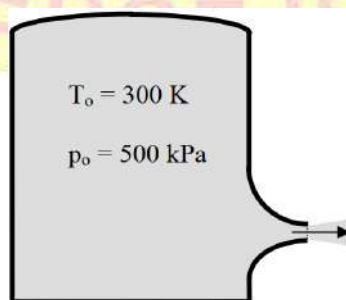

Figure 2
17. Compressed air is discharged through the converging nozzle as shown in figure 2. The tank pressure is 500 kPa and local atmospheric pressure is 101 kPa . The inlet area of the nozzle is 100 cm^2 ; the exit area is 34 cm^2 . Find the force of the air on the nozzle, assuming the air to behave as a perfect gas with constant $\gamma=1.4$. Take the temperature in the tank to be 300 K . You may assume that the nozzle is choked and isentropic flow. (14)